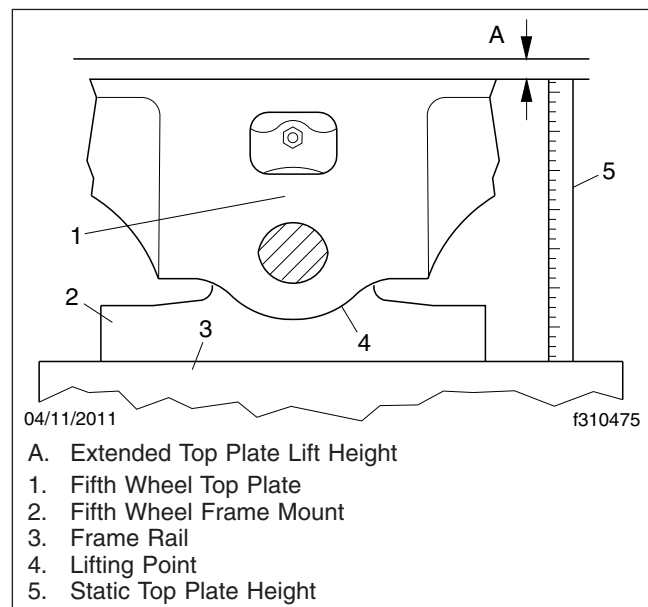

Fig. 3, Measuring Fifth Wheel Top Plate Lift
7. Measure the top plate lift. See **Fig. 3**.